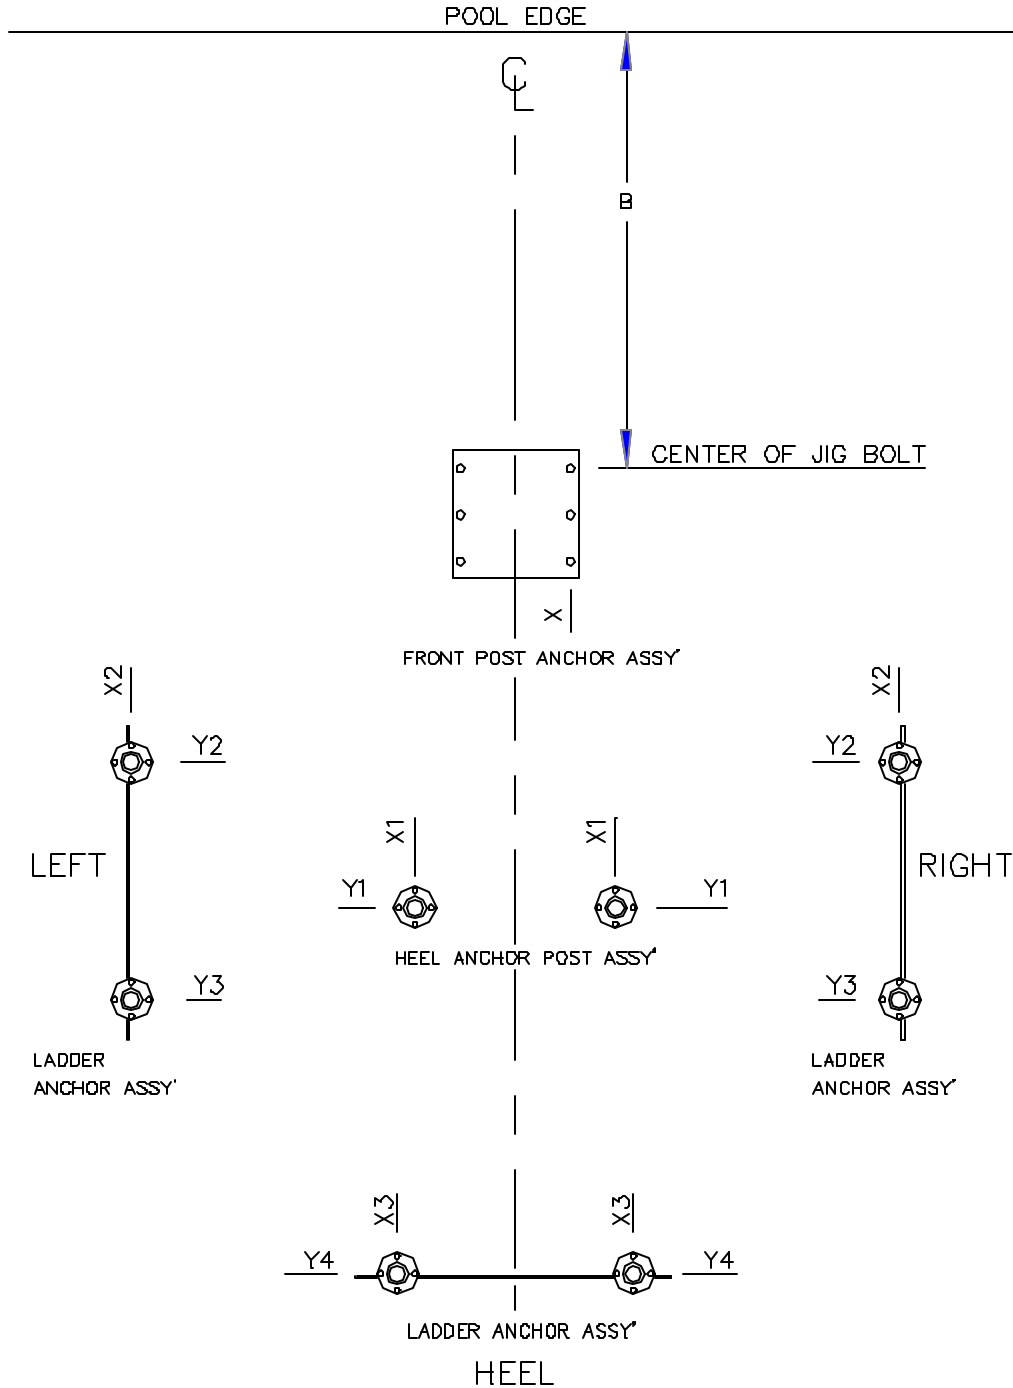

FIG. 3
** MIN. LENGTH: Add 15" to the Y3 dimension (Right, Left or Dual Mount Tower) or the Y4 dimension (Heel Mount Tower) found in Fig. 3 (page 3) and Chart 2 (page 4).
1. It is CRITICAL that the jigs are located according to Fig. 3 below and Chart 2 on page 4. The top surface of the jigs MUST be level and flush with the concrete surface. Keep bolt threads and top surface of jig plates clean of concrete. Let concrete cure before installing Meter Tower.
* Same as "B" dimension in Fig. 2 page 2 and Fig 3 page 3.